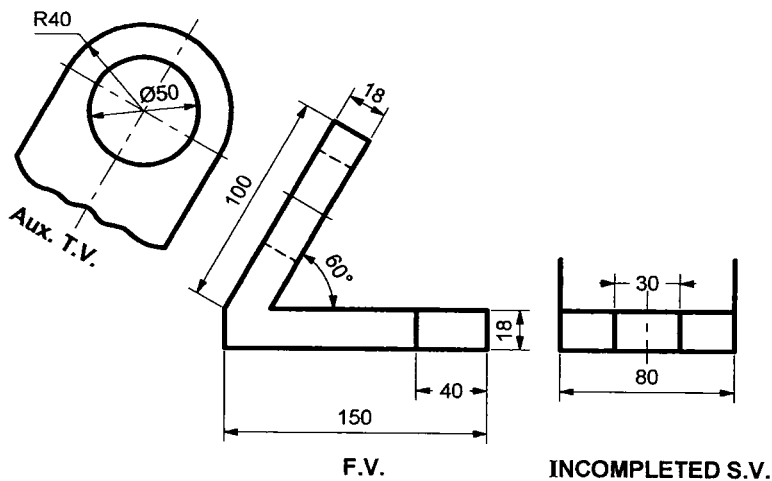

Fig. No. 2
2. (a) Fig No. 2 shows front view, Auxiliary view and incomplete side view. Complete the side view using first angle method. 12